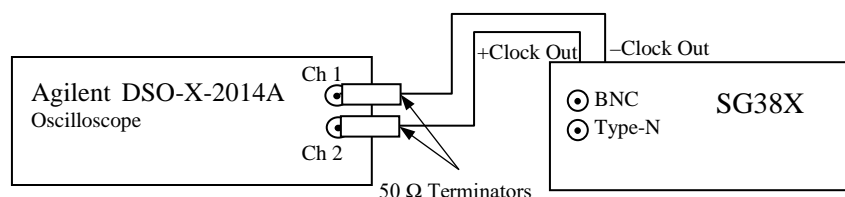
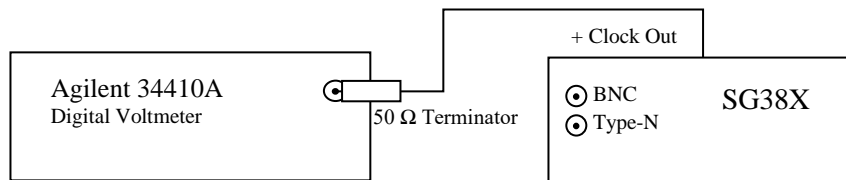

Figure 12: Clock output operation test.
Figure 14: Clock output level test.
This test verifies the operation of option-1 clock outputs. This test requires the setups shown in Figure 12 and Figure 14. The first test merely demonstrates overall operation. The second test verifies calibration of the outputs.
1. Connect the equipment as shown in Figure 12.
6. Connect the equipment as shown in Figure 14.